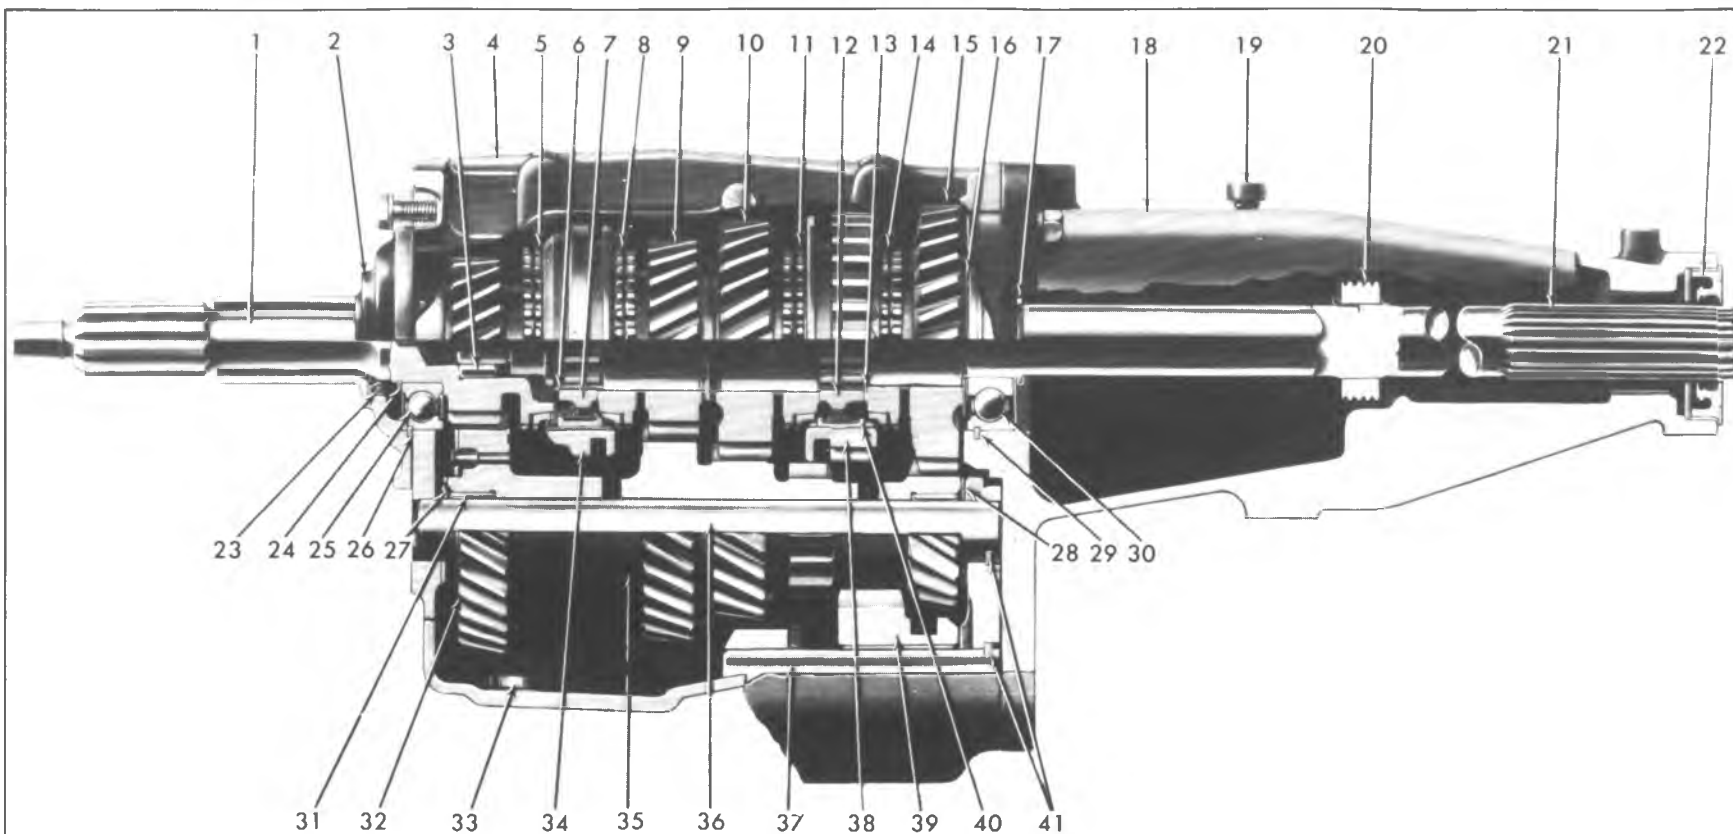

Fig. 7B-1J-4-Speed 76mm Transmission Cross Section
3. Remove clutch gear bearing to gear stem snap ring, then remove clutch gear bearing by pulling outward on clutch gear until a screwdriver or other suitable tool can be inserted between bearing, large snap ring and case to complete removal (Fig. 7B-2J). The clutch gear bearing is a slip fit on the gear and into the case bore. This provides clearance for removal of clutch gear and mainshaft assembly.
5. Remove clutch gear, mainshaft and extension assembly together through the rear case opening (Fig. 7B-3J).
6. Using snap ring pliers, expand the snap ring in the extension which retains the mainshaft rear bearing (Fig. 7B-4J) and remove the extension.
7. Using J-22246 at the front of the countershaft, drive the shaft and its woodruff key out the rear of the case. Tool J-22246 will now hold the roller bearings in position within the counter gear bore. Remove the gear and bearings (Fig. 7B-5J).